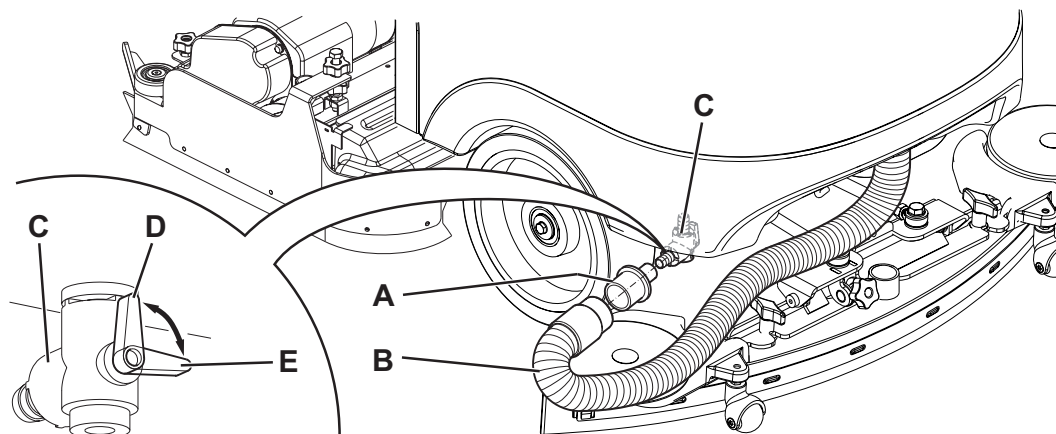

Figure 6
1. Stop the machine by releasing the pedal (4).
2. Lift the brush/pad-holder deck and the squeegee by pressing switch (63).
4. Empty the recovery tank with the hose (24).
5. Remove the container with debris collection grid (26), empty it and clean it with clean water. Then install it on the suction hose in the tank.
8. Remove the adapter (45) from its housing inside the battery compartment.
9. Install the adapter (A, Fig. 6) on the squeegee vacuum hose (B), then fasten it to the drain tap (C).
10. Turn the ignition key (58) to "I" and turn on the vacuum system with the switch (65).
11. Open the drain tap (C) to drain the tank (22).